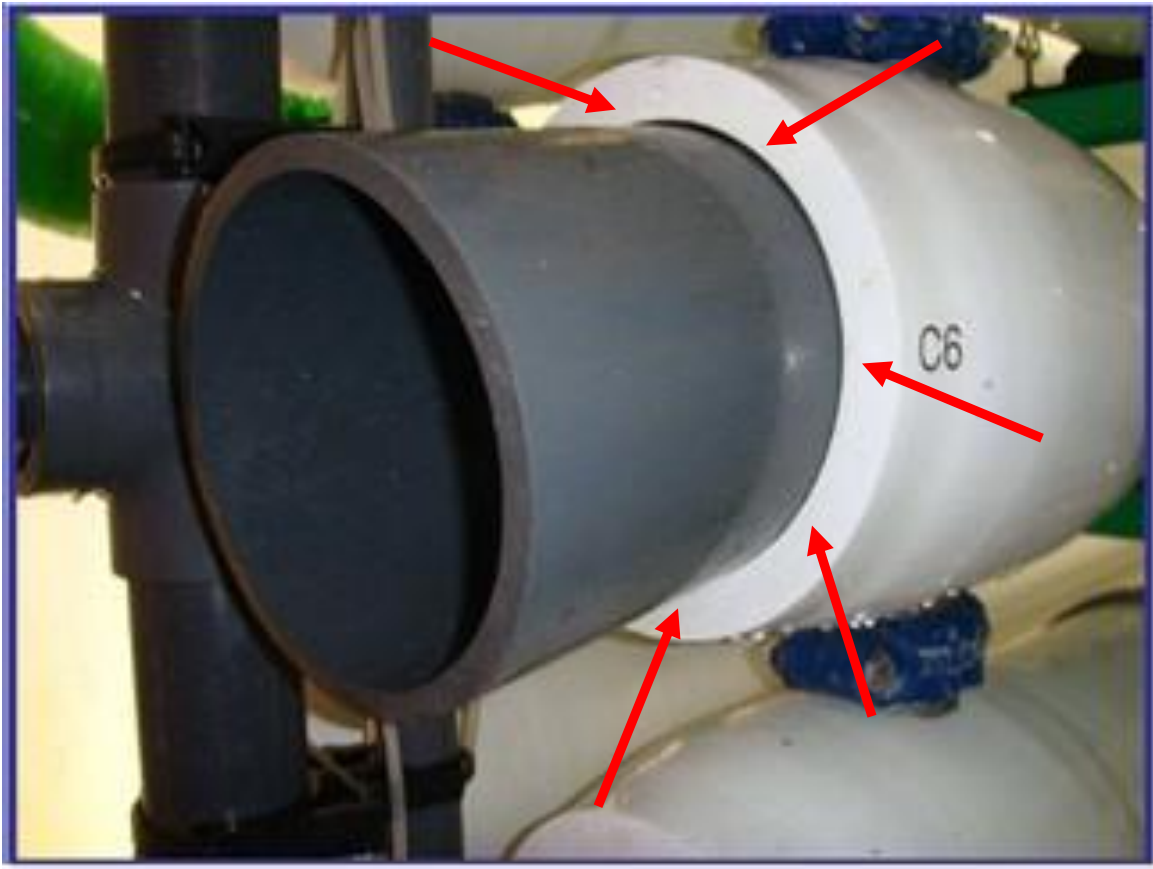

Figure 3 – Element Pushing Device
10. It is recommended to use an element pushing device, which is at least a 16 inch (400 mm) length of 6 inch (150 mm) diameter PVC pipe, which safely keeps workers hands outside of the vessel when loading the last element to avoid possibly crushing fingers and hands when using such force as used when pushing a stack of 6, 7 or 8 elements deep (Figure 3).